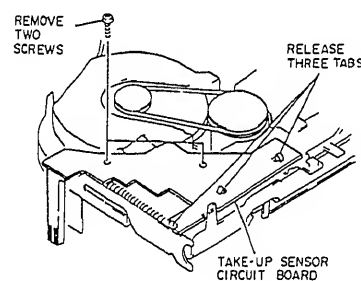
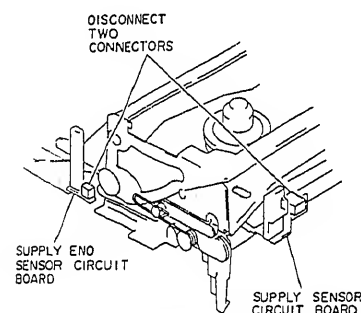

Fig. 2-61
Fig. 2-62
1. Remove two (2) screws holding the take-up sensor circuit board. (See Fig. 2-61)
2. Release three (3) tabs and open the take-up sensor circuit board.
3. Disconnect two (2) connectors (CN001) from the supply sensor circuit board and supply end sensor circuit board. (See Fig. 2-62)